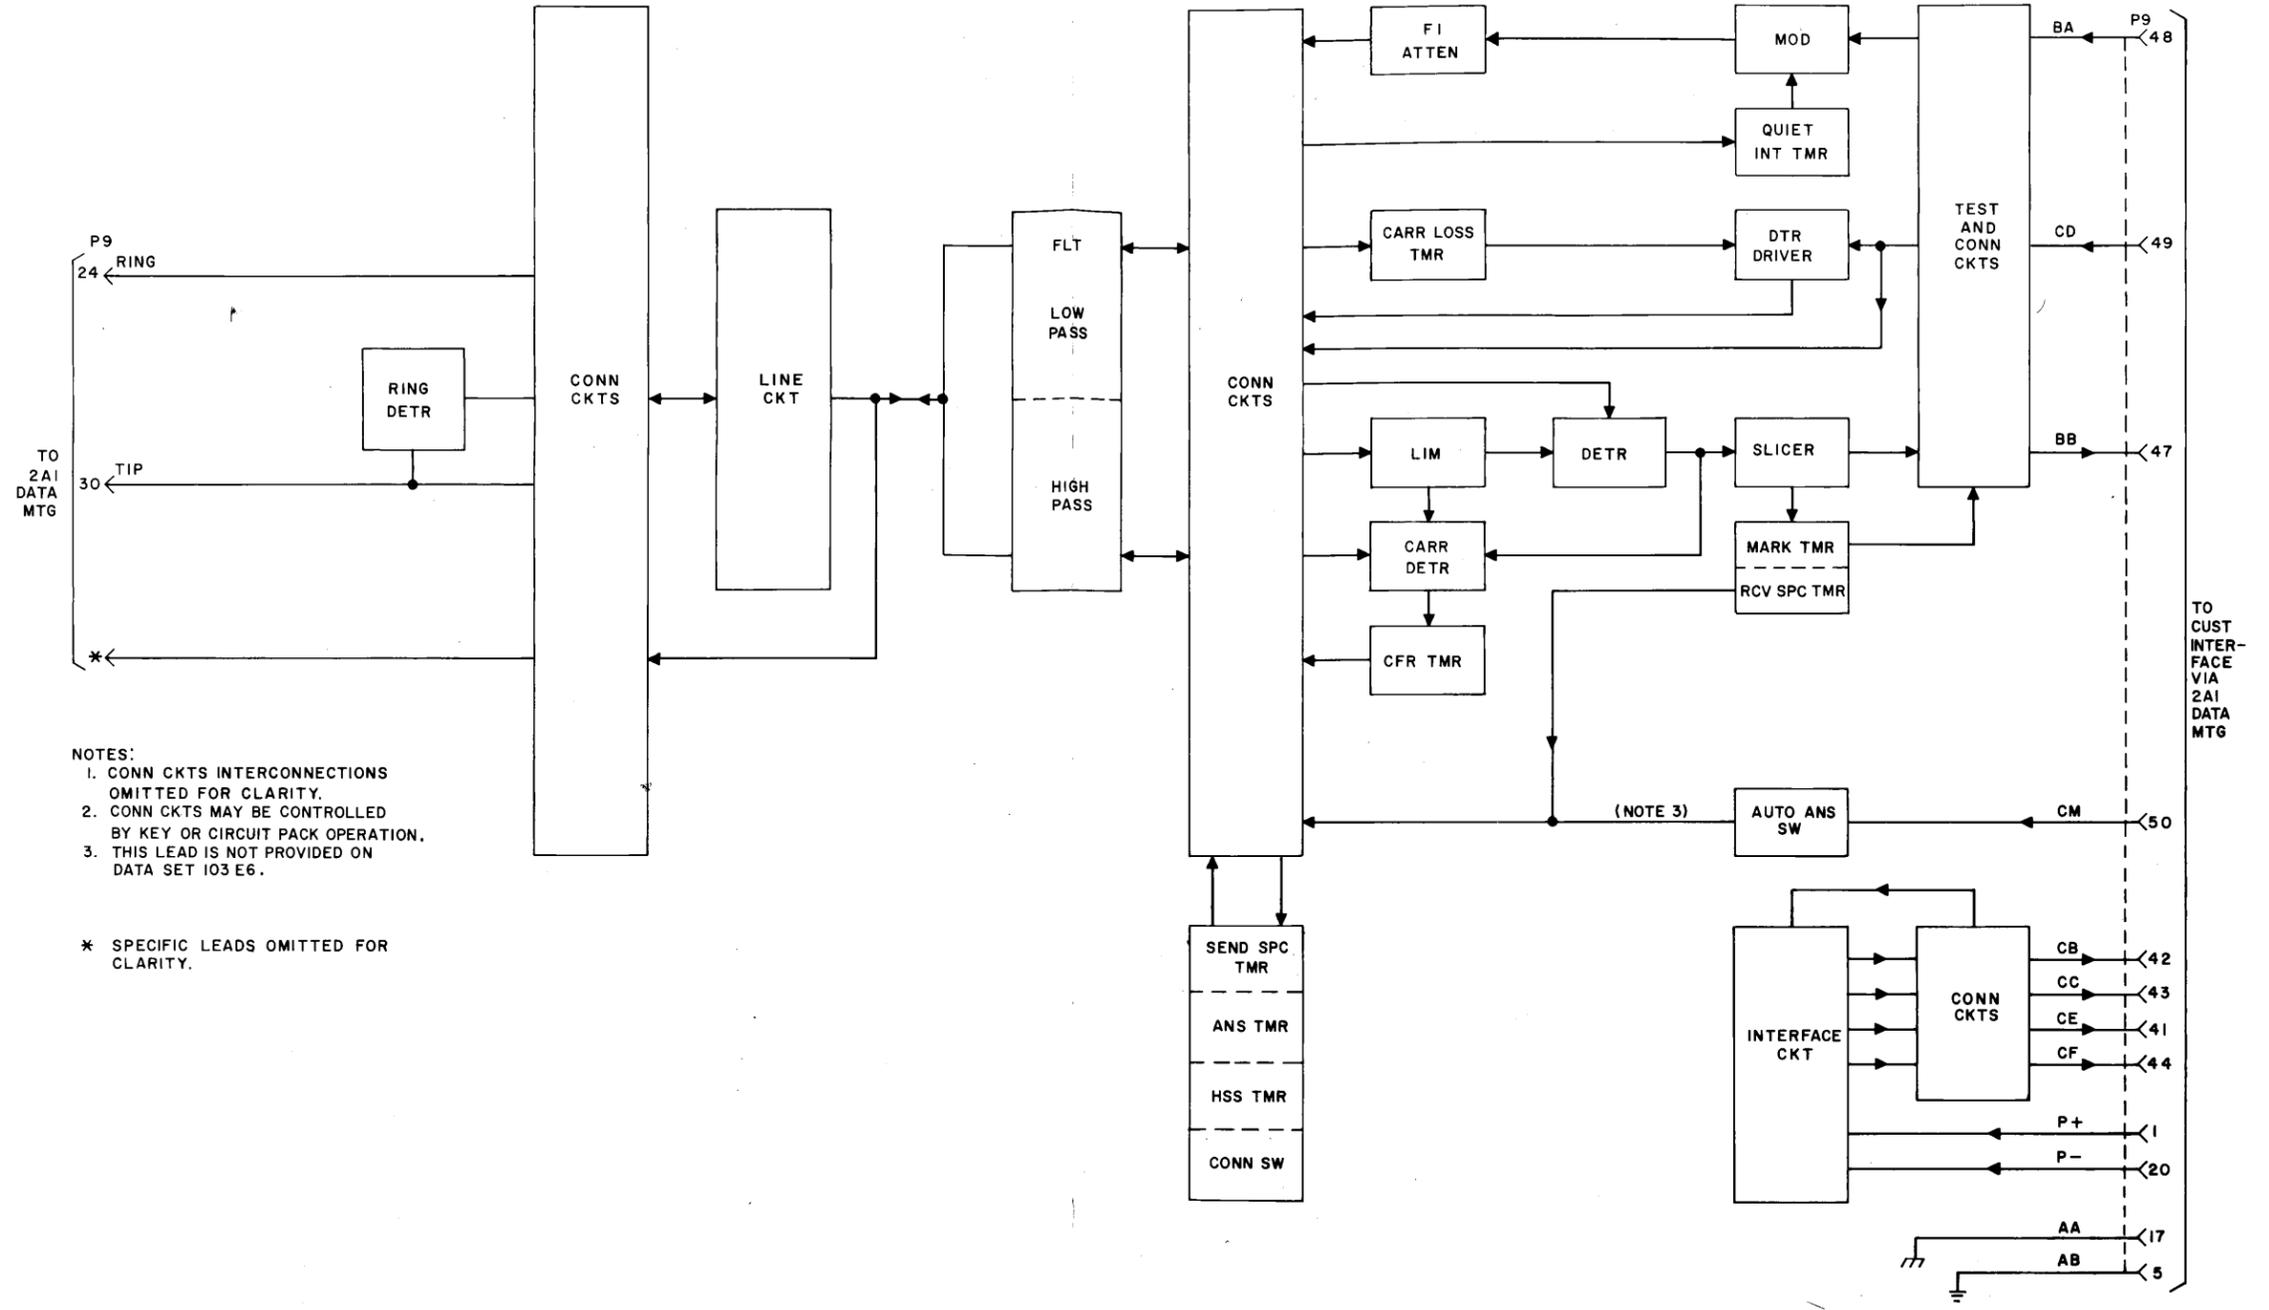

Fig. 11—Data Set 103E-Type—Functional Block Diagram
3.10 The following paragraphs of data set operation refer to the block diagram of Fig. 11.